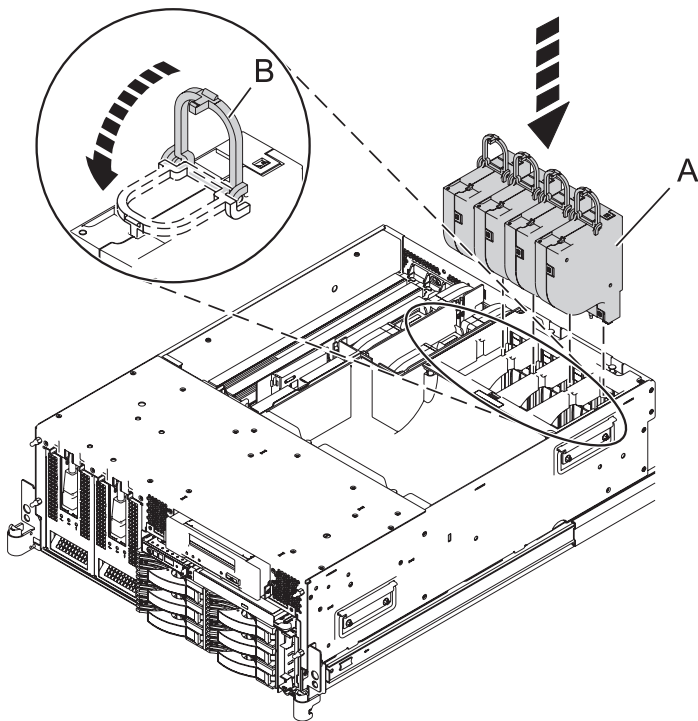

Figure 21. Installing the fans in the 8203-E4A, 9407-M15, or 9408-M25 airflow cover
- 2) To install the fans, insert each fan (A) into its location in the airflow cover, push down on the fan until it locks into place, and close the latch (B), as shown in Figure 21.